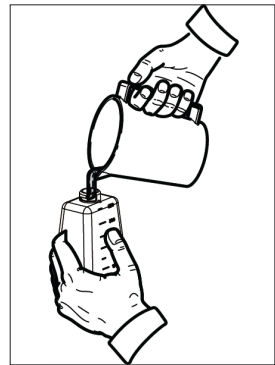

Fig.14
- When using the detergent bottle, fill it with a properly formulated detergent or cleaner with a water ratio according to instructions on the container (Fig.14).